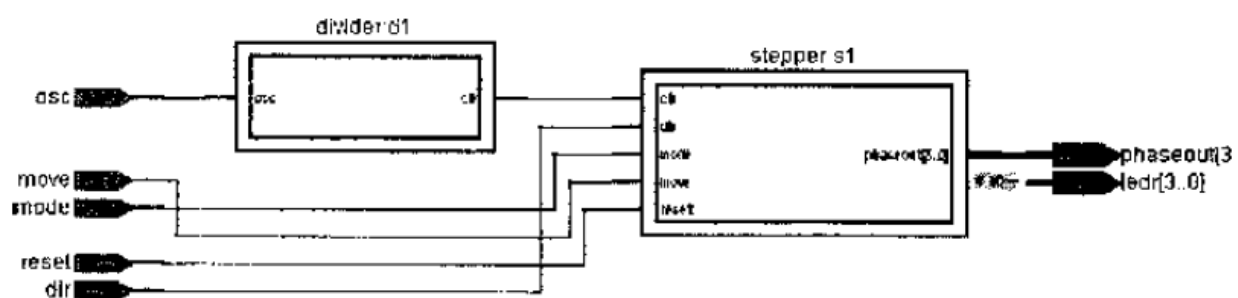

Figure 4.3: RTL Viewer overview of the step top-level module.
4. Use **Tools** → **Netlist Viewer** → **RTL Viewer** to generate the block overview shown in Figure 4.3.